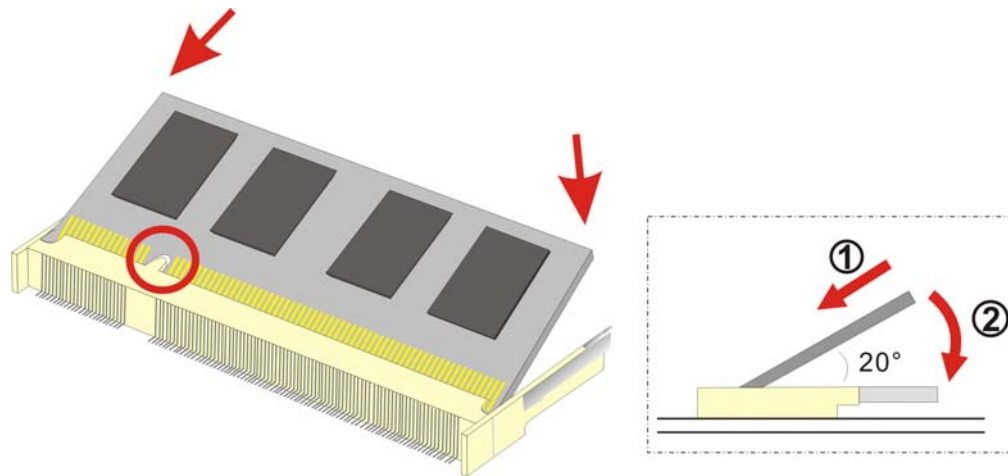

Figure 5-1: SODIMM Installation
To install a SODIMM into a SODIMM socket, please follow the steps below and refer Figure 5-1.
- Step 3:** Insert the **SODIMM**. Push the SODIMM chip into the socket at an angle. (See **Figure 5-1**)
- Step 4:** Open the **SODIMM socket arms**. Gently pull the arms of the SODIMM socket out and push the rear of the SODIMM down. (See **Figure 5-1**)